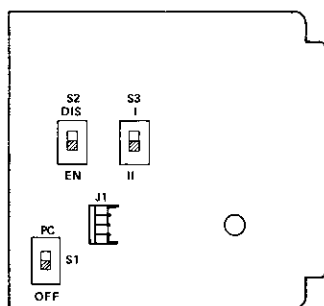

figure 5. 6251 option switch locations
3.05 Three two-position slide switches must be set before the 6251 is put into service. Locations of these option switches on the module's printed circuit board are shown in figure 5. The switches and their functions are described in paragraphs 3.06 through 3.08.